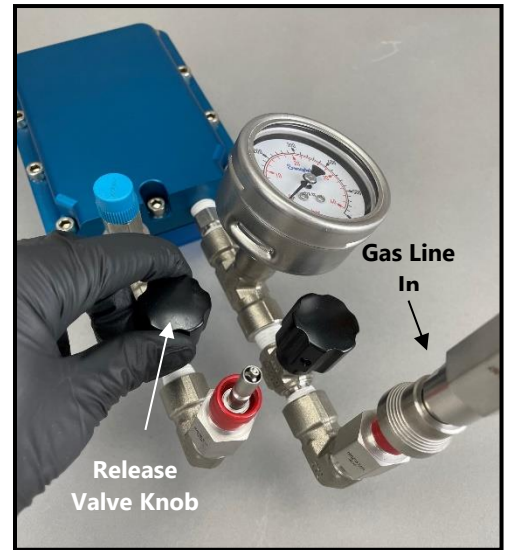

Figure 10. Release valve set to closed.
6. Make sure the black release valve knob (see **Figure 10**) is **closed** when you want to pressurize.